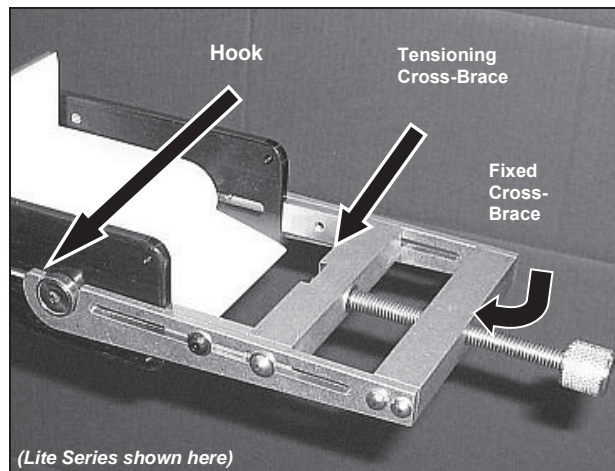
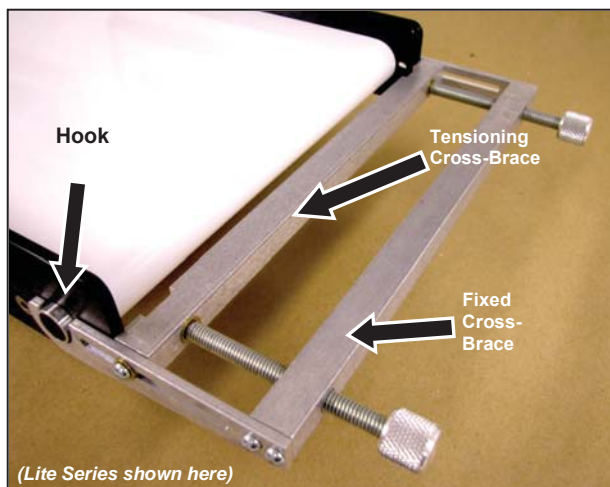

Fig. 4 — 1-knob tensioning tool (belt widths ≤ 10 in.)
Fig. 5 — 2-knob tensioning tool (belts 12 in. and wider)
1. Install belt tensioning tool on idler end as shown in figs. 4 and 5.
9. Use belt tensioning tool (Fig. 4 or Fig. 5) on idler end to tighten or loosen belt as needed — using very small increments — which acts to center the belt at this end.